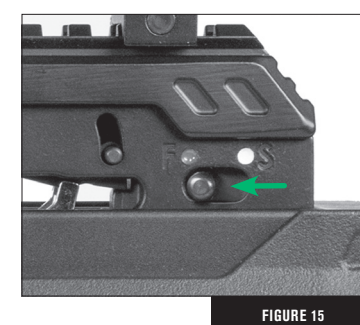

FIGURE 15
The safety is disengaged and the crossbow is ready to be cocked when the safety switch has moved from the (S)AFE position, under the white dot, to the (F)IRE position, under the red dot, as illustrated in Figure 15.